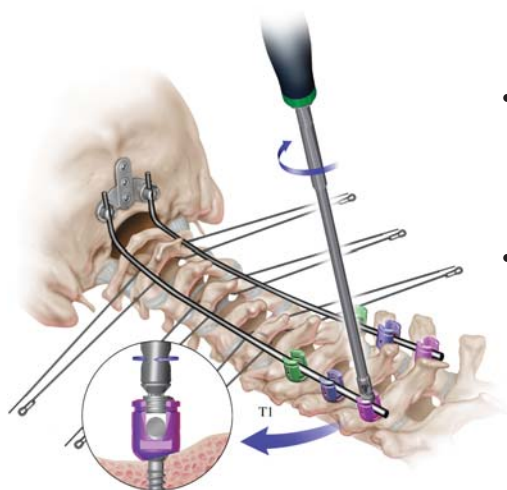
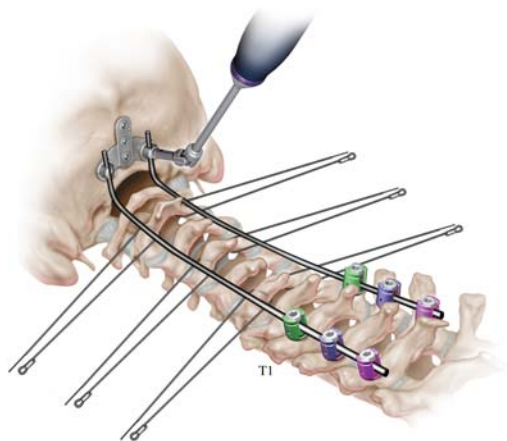

Figure 18a
Figure 18b
- Utilizing the Inner Set Screw Inserter, apply the Inner Set Screw to Hooks, Minipolyaxial Screws (Figure 18a) and the sliding connectors on the OC Plate (Figure 18b).